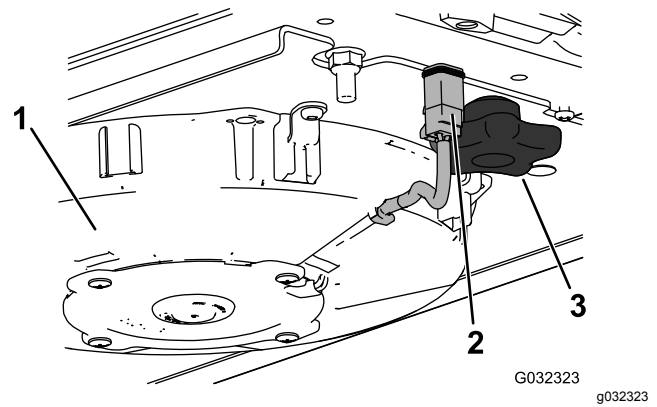
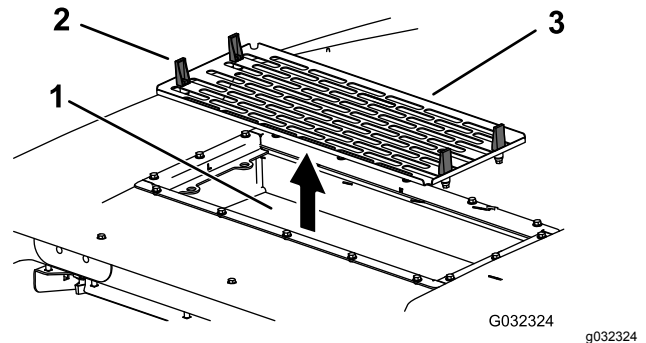

Figure 96
Figure 97
- Install the air filters, screen, and fan assembly (Figure 94, Figure 96, and Figure 97).
- Connect the wire for each fan (Figure 96).